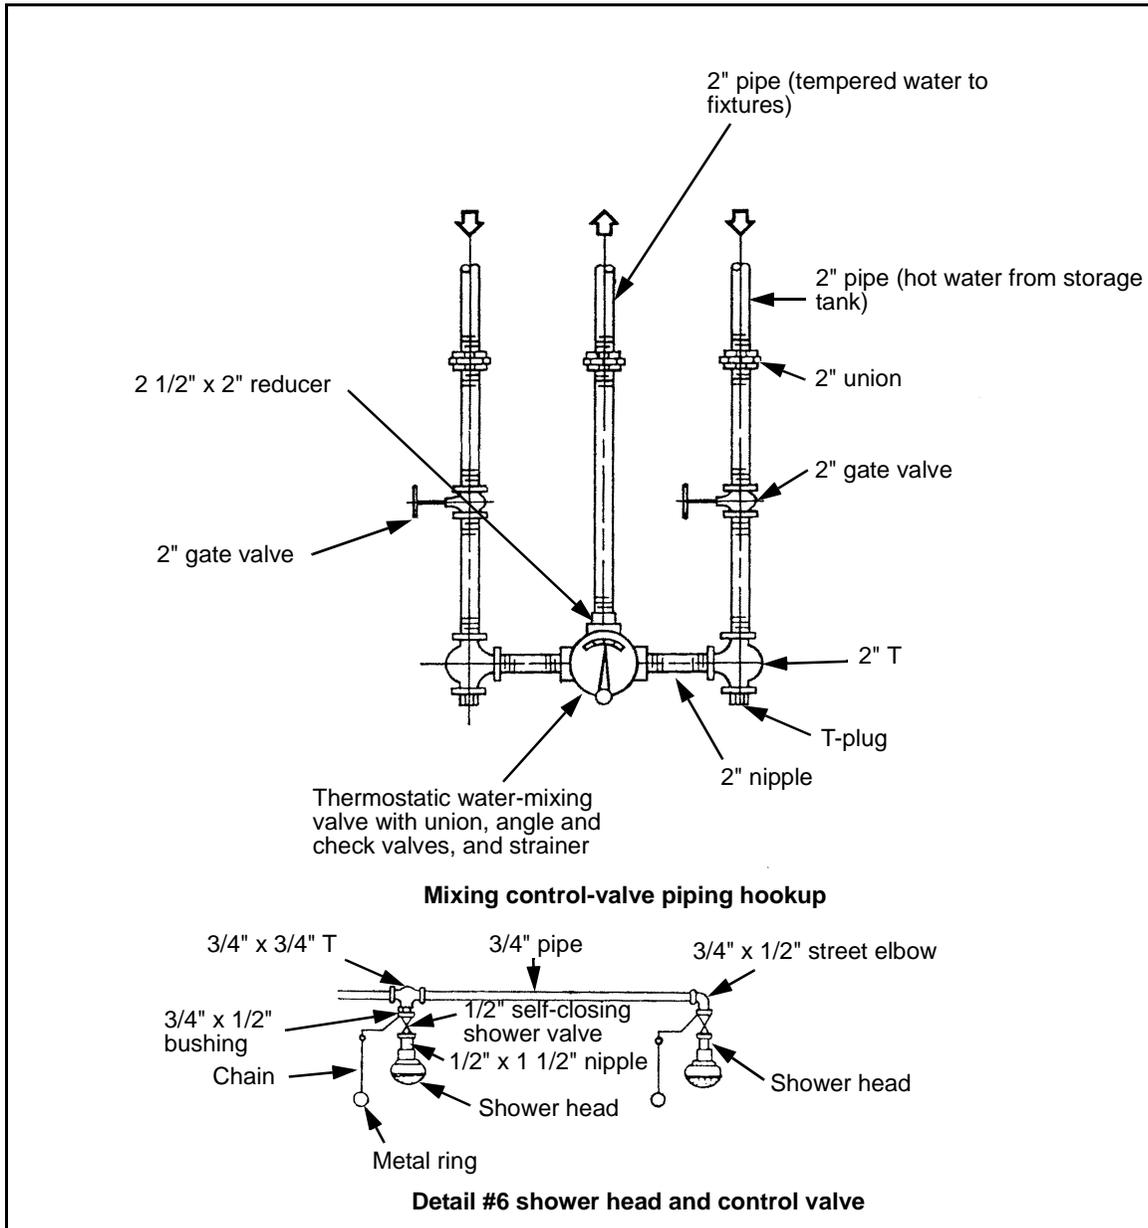

Figure B-4. Special Detail Drawings (Bathhouse and Latrine)
- A special detail drawing of the control-valve and showerhead-fitting requirements (Figure B-4).